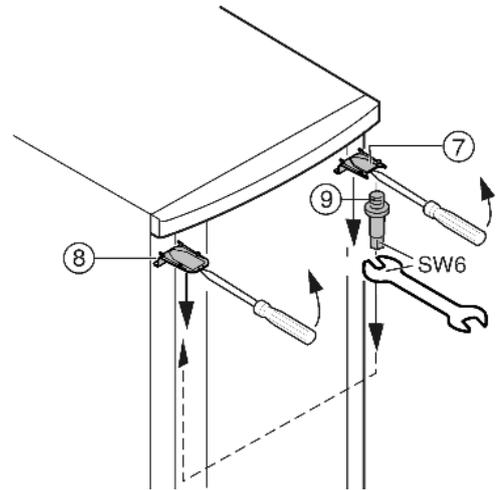

Fig. 7
- At the top, use a screwdriver to unclip cover Fig. 7 (7) and cover Fig. 7 (8) at the front, and remove by pulling out and down.
- Unscrew the bearing pin Fig. 7 (9) and screw it firmly into place on the opposite side (**with 4 Nm**).
- Refit the cover Fig. 7 (7) on the side of the bearing pin: insert at the back, snap in at the front.
- Fit the cover Fig. 7 (8) on the opposite side: insert at the back, snap in at the front.
- Hang the door on the bearing pin Fig. 7 (9) at the top.